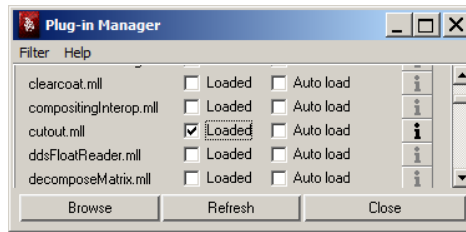

Figure 1.1: Activate the checkbox from the Plug-in Manager.
6. Activate the checkbox **loaded**.(see Fig. 1.1)